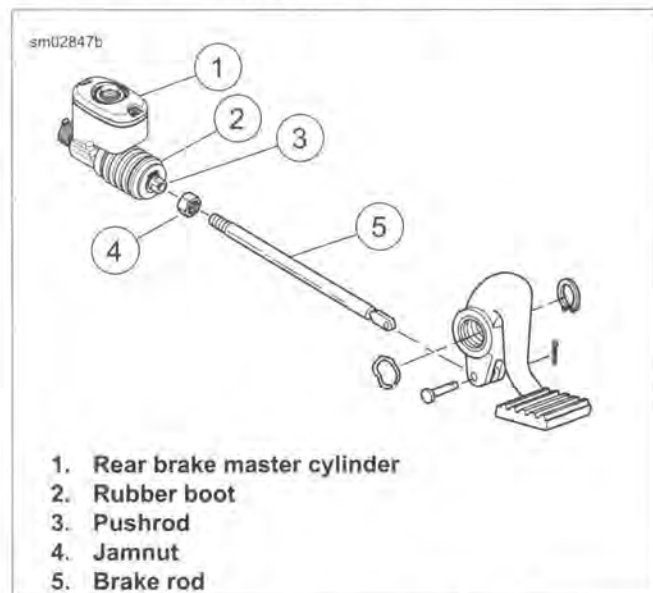

Figure 1-30. Rear Brake Pedal Height (Typical)
1. See Figure 1-30. Brake rod (5) is threaded into pushrod (3) in rear brake master cylinder (1), and locked in place with jamnut (4). Loosen jamnut.